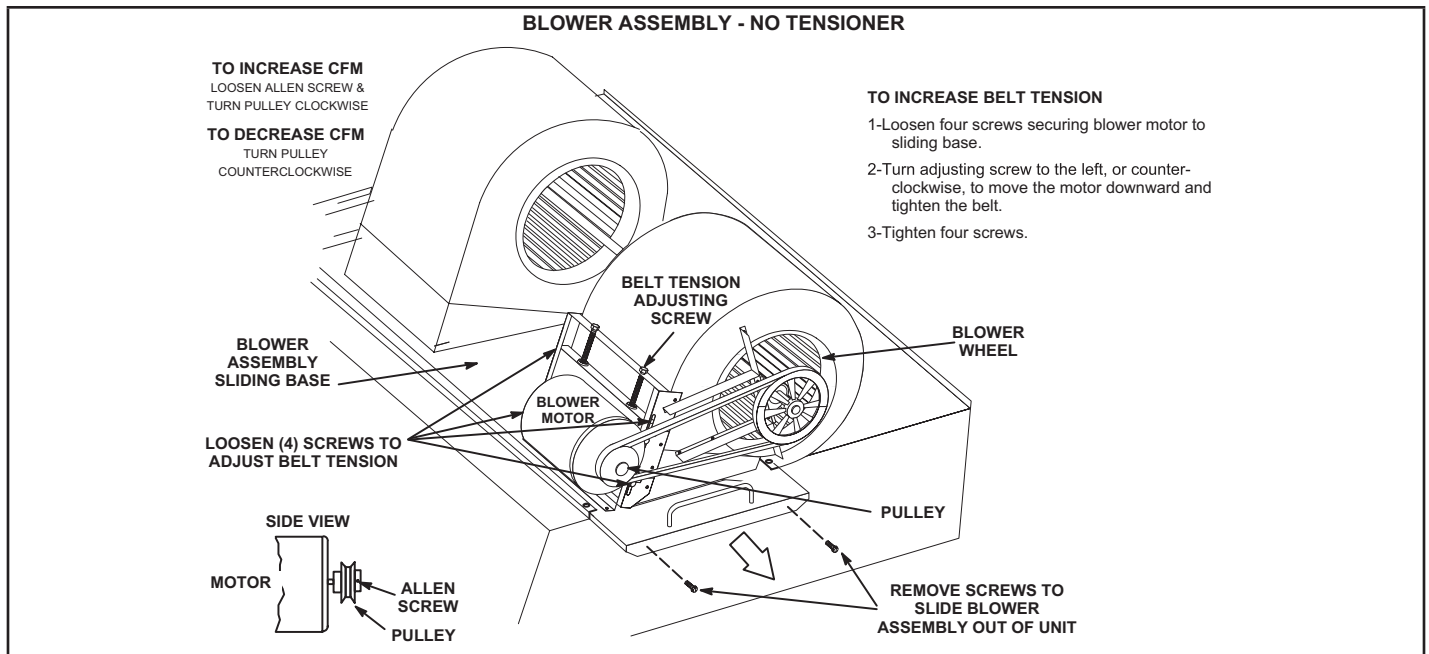

FIGURE 19
The blower compartment is located between the evaporator coil and the compressor / control section on the opposite side of the condenser coil. The blower assembly is accessed by disconnecting the blower motor wiring (and all other plugs) and removing the screws on either side of the sliding base. The base pulls out as shown in FIGURE 19.
- 2 - Remove screws on either side of blower assembly sliding base. See FIGURE 19.
- 4 - The blower RPM can be adjusted at the motor pulley. Loosen Allen screw and turn adjustable pulley clockwise to increase CFM. Turn counterclockwise to decrease CFM. See FIGURE 19. Do not exceed minimum and maximum number of pulley turns as shown in TABLE 5.
- 1 - Loosen four screws securing blower motor to sliding base. See FIGURE 19.